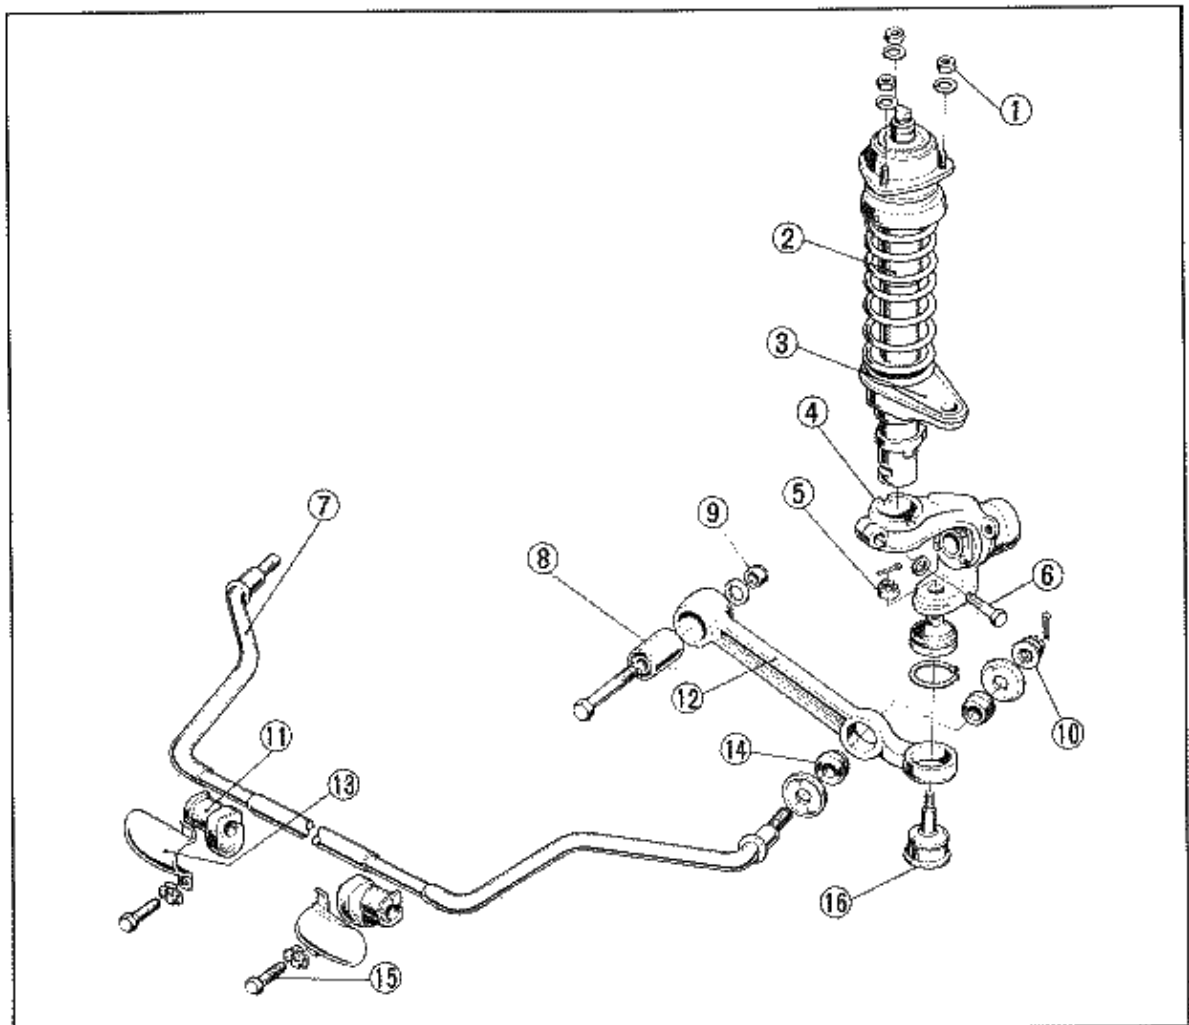

Fig. 12-1
② Front Damper Compressor
* See Fig. 12-1 for torque specification.
* See Fig. 12-1 for torque specifications.